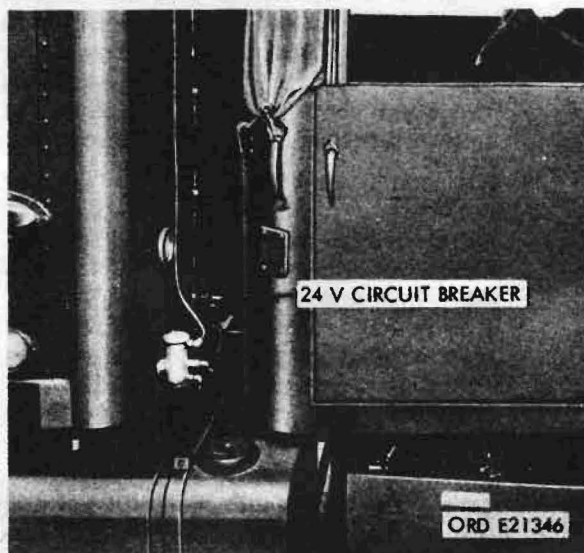

Figure 91. 24-volt circuit breaker and wiring harness
- (3) Circuit breaker (24-volt) (fig. 91). The 24-volt circuit breaker, located on the lower right side of the outer van body behind the cab, is used to provide overload protection for the 24-volt circuit.